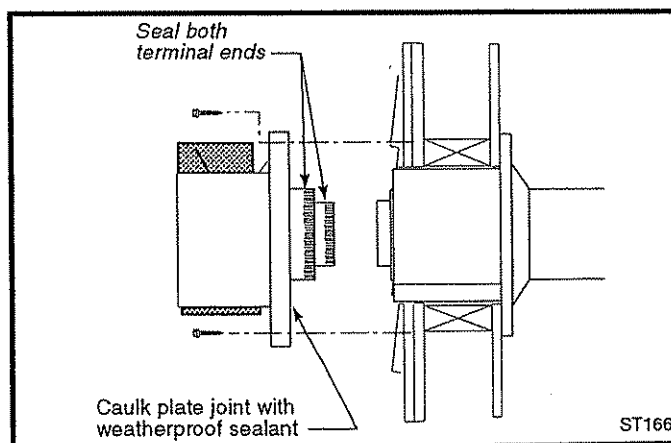

Fig. 35 Install the vent terminal.
10. Install the vent terminal. (Fig. 35) Apply high temperature sealant one inch from the ends of the inner and outer collars. Guide the inner and outer vent termination collars into the adjacent pipes. Double check that the vent pipes overlap the collars by 2". Secure the termination to the wall with the screws provided and caulk the joint with weatherproof sealant.